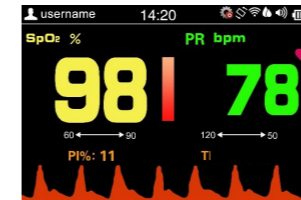

Figure 4.2B Default Display Screen--in horizontal
- During measurement, longtime pressing Auto-rotate/Up key "Auto-rotate", then the Auto-rotate white icon "Auto-rotate" appears on the upper right corner of the screen, it means the auto rotation function is enabled, if you place this oximeter horizontally, then the display shows in horizontal, as shown in figure 4.2B.